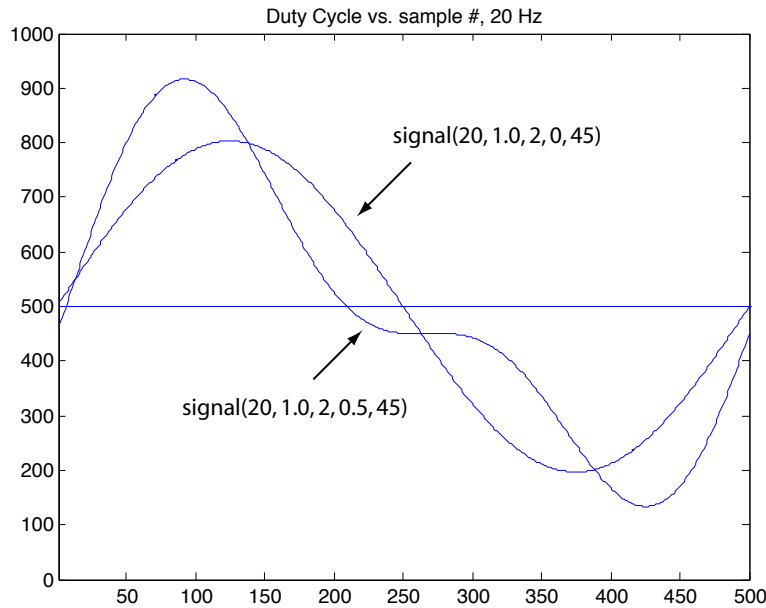

Figure 9.3: Example analog output waveforms, plotted as the duration 0 to 1000 of the high portion of the PWM waveform, which has a period of 1000.
where the constant C is 1.65 V (half of the full range 0 to 3.3 V), A_1 is the amplitude of the sinusoid at frequency f , A_2 is the amplitude of the sinusoid at frequency kf , and ϕ is the phase offset of the higher frequency component. Typically values of A_1 and A_2 would be 1 V or less so the analog output is not saturated at 0 or 3.3 V. The function takes A_1 , A_2 , k , f , and ϕ as input and creates an array `dutyvec`, of appropriate length, where each entry is a value 0 to 1000 corresponding to the voltage range 0 to 3.3 V. Each entry of `dutyvec` corresponds to a time increment of $1/10 \text{ kHz} = 0.1 \text{ ms}$, and `dutyvec` holds exactly one cycle of the waveform, meaning that it has $n = 10 \text{ kHz}/f$ elements. A Matlab implementation is given below. You can experiment plotting waveforms or just use the function for reference. A reasonable call of the function is `signal(20, 0.5, 2, 0.25, 45)`, where the phase 45 is in degrees. Example waveforms are shown in Figure 9.3.
- (e) The main function of your program should sit in an infinite loop, asking the user for new parameters. In the meantime, the old waveform continues to be “played” by the PWM. For the values given in Figure 9.3, use your oscilloscope to confirm that your analog waveform looks correct. Your code will be graded on organization, comments, simplicity/elegance, and correctness. Turn in your C file for testing.